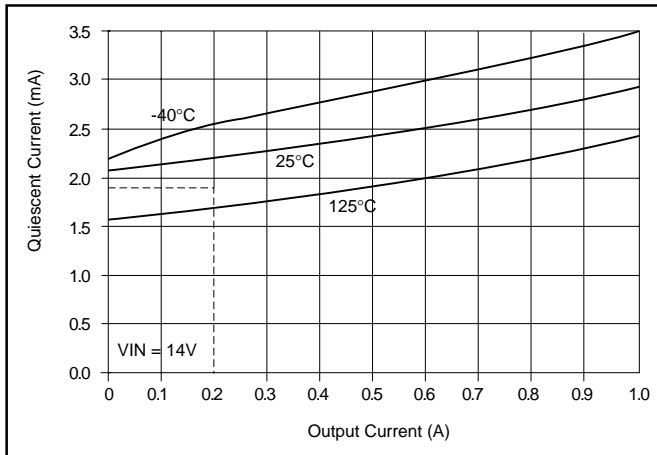

Figure 2. Quiescent Current over Temperature for CS8121
Step 1: Determine I_Q from the data sheet performance curve (Figure 2). Find the maximum output current on the graph's X axis. Locate the intersecting point on the curve whose temperature is the same or lower than the application's $T_A(\text{max})$. In this case, $I_Q = 2.25\text{mA}$ for $I_{OUT} = 200\text{mA}$ at $T_A(\text{max}) = 25^{\circ}\text{C}$ and $I_Q = 1.7\text{mA}$ @ $T_A(\text{max}) = 125^{\circ}\text{C}$. For 85°C , the value of $I_Q = 2.25\text{mA}$ is chosen as the worst case possibility.
With these new requirements, $I_Q(\text{typ})$ remains at approximately 2.25mA (Figure 2). Power dissipation is higher due to the higher input voltage.